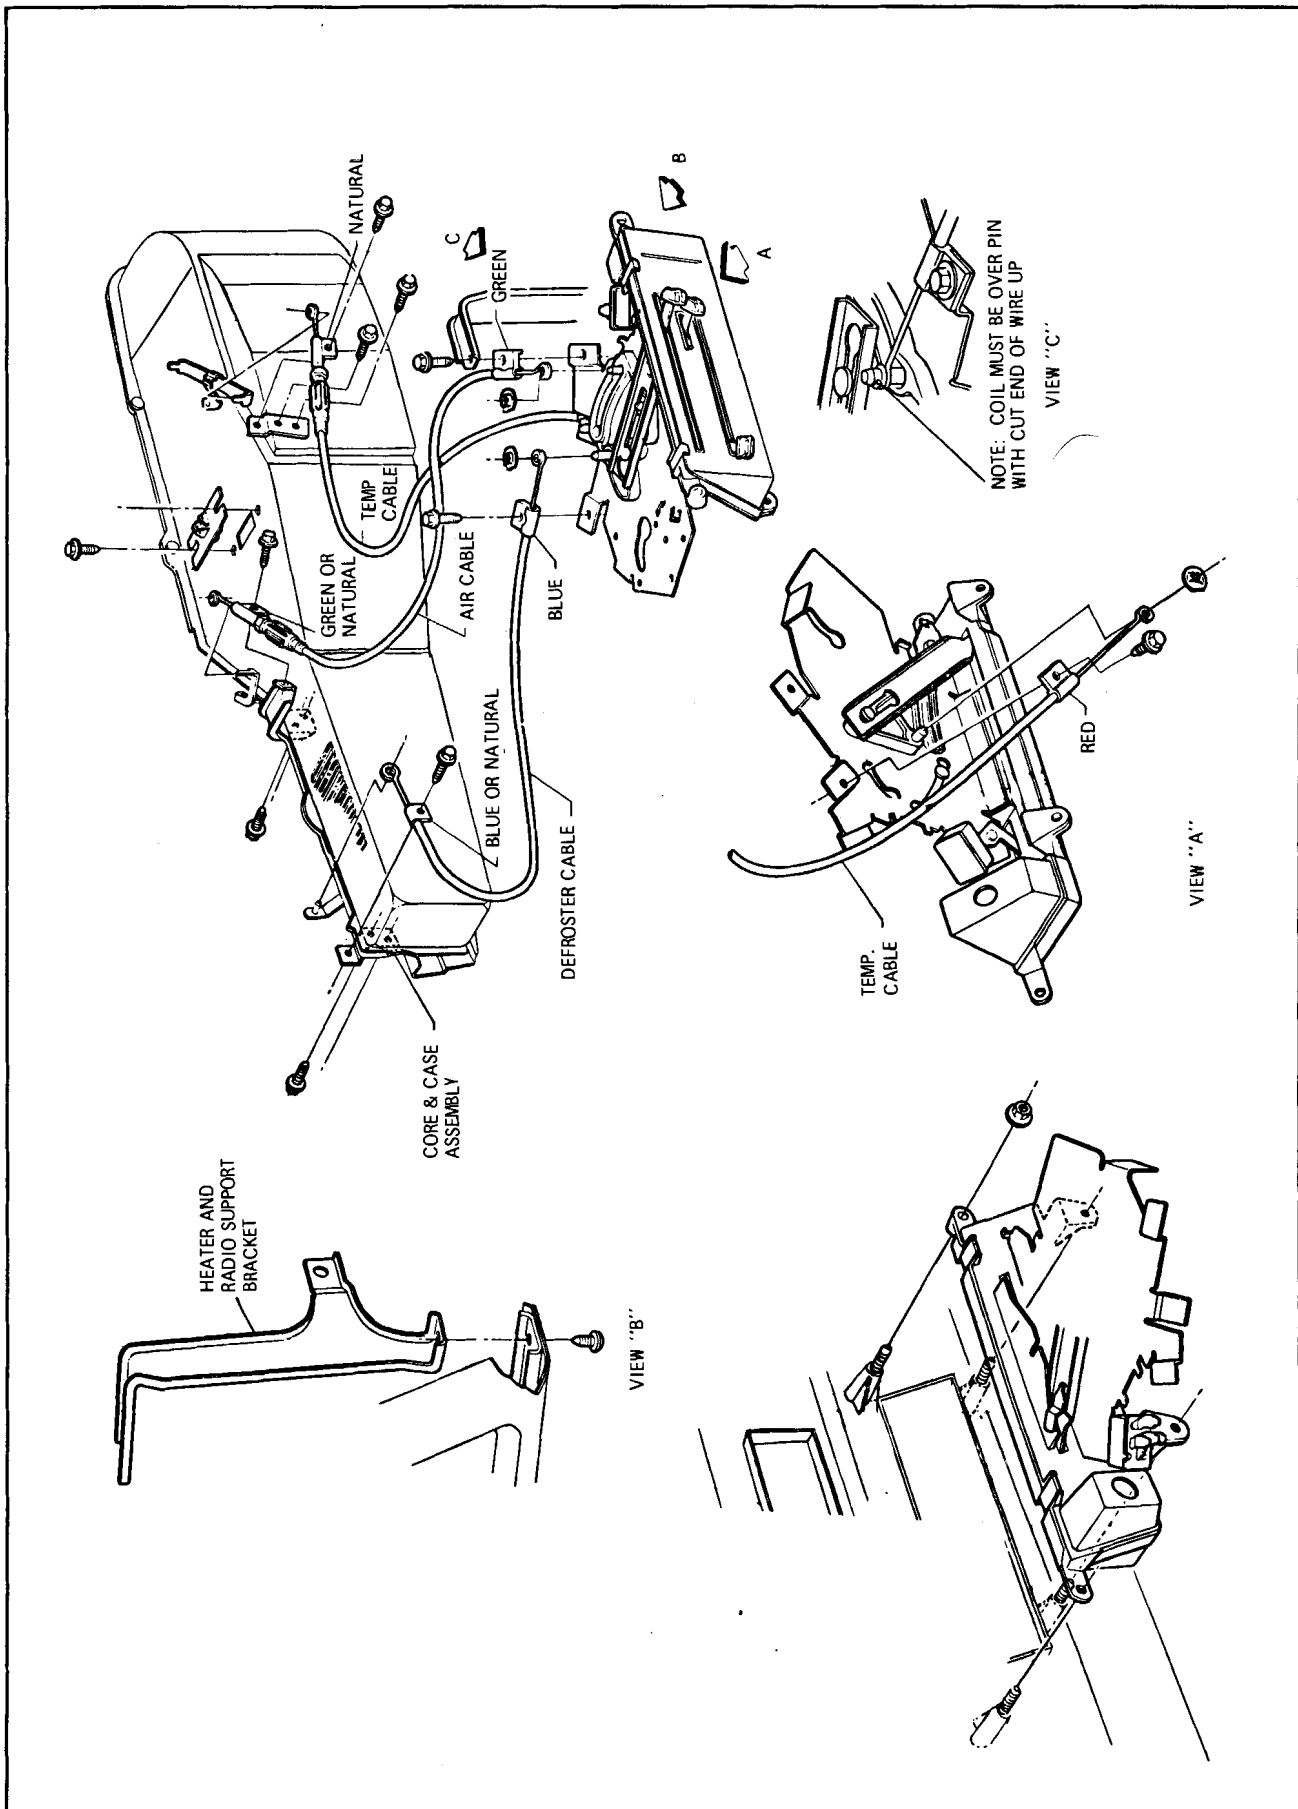

Fig. 1-12 A Series Heater Control Panel and Cables
2. Adjust cable turnbuckle (Fig. 1-12) so that the temperature control lever will drop into the detent for the full OFF position.
3. While holding air control door in this position, adjust turnbuckle (Fig. 1-12) to move lever against end of slot in control panel. Then turn turnbuckle in opposite direction to move control lever 1/16" to 1/8" away from end of slot if eased out of detent.
4. To replace cable, reverse removal procedure. Route cable smoothly, check operation and adjust if necessary, see Fig. 1-12.
4. To replace, reverse removal procedure, see Fig. 1-12.
4. Disconnect lamp and wire connectors from control panel (Fig. 1-12).
5. Remove (4) control panel attaching nuts and screw holding heater control and radio support bracket to the lower instrument panel reinforcement.